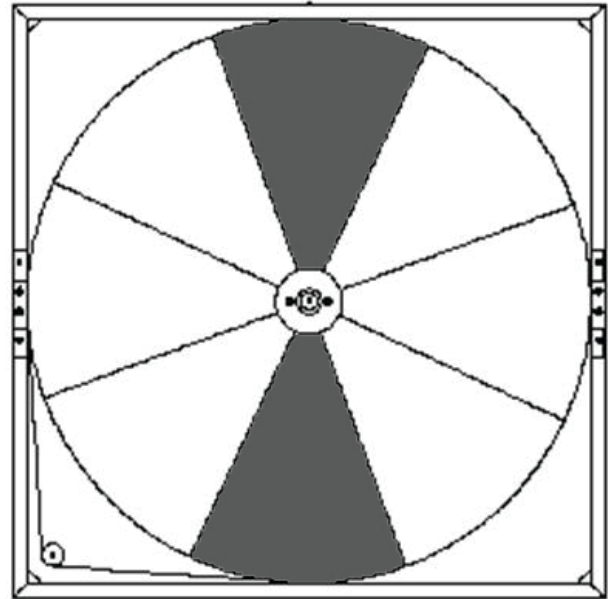

Fig. 32 – Remove/Install Opposing Segments (36 to 86 in.)
Remove or install opposing segments to minimize wheel imbalance. See Fig. 32 for opposing segment removal or installation example.
6. Remove segment by sliding outer portion of segment out first before disengaging the nose. See Fig. 32 for segment removal. A flathead Screwdriver may be used to aid segment removal. Be careful not to bend the segment frame or wheel rim.
8. Slowly rotate wheel 180-degrees and remove the opposing segment to rebalance the wheel. See Fig. 32 for removal example.
5. Rotate first segment 180-degrees and install the opposing segment to rebalance the wheel. See Fig. 32 for example of installing opposing segments.
6. Repeat until all of the remaining segments are installed, ensuring balance throughout the procedure. See Fig. 32 for example of installing opposing segments.